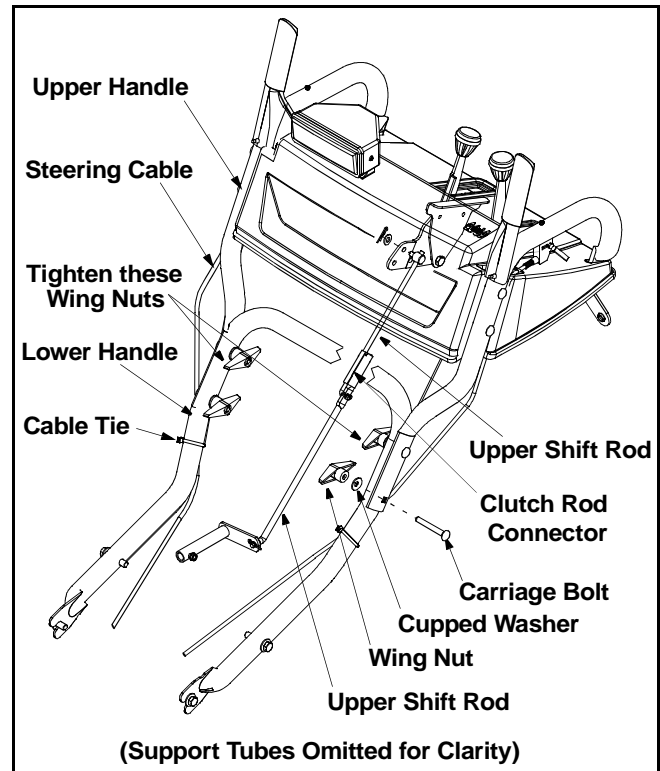

Figure 2
- Remove the **lower** plastic wing nut, cupped washer and carriage bolt from each side of the lower handle. See Figure 2.
- Tighten the two wing nuts already in place on the upper holes and secure the handles firmly. Slide the shift rod connector down over the end of the lower shift rod. Tap the connector until it **locks** over the lower shift rod. See Figure 2.